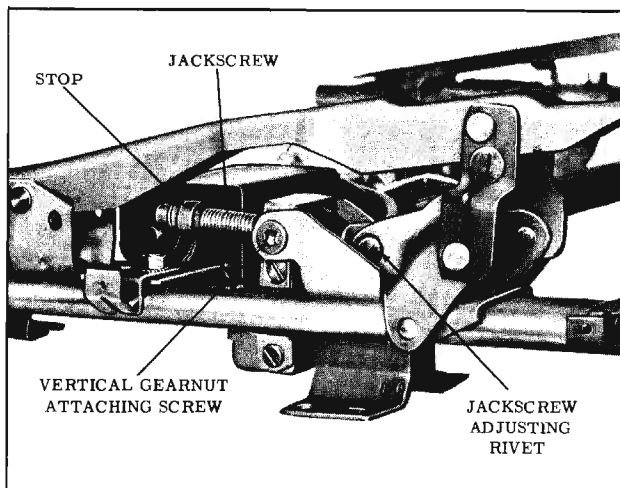

Fig. 16-90 Bucket Seat Adjuster (Outboard)
3. Using a clutch type screwdriver, remove shoulder screws securing linkage to vertical gear nut. (Fig. 16-90)
4. Remove jackscrew "down" stop from jack-screw. (Fig. 16-90)
- As a bench operation, remove jackscrew-to-adjuster linkage attaching rivet and remove jackscrew from adjuster assembly. (Fig. 16-90)